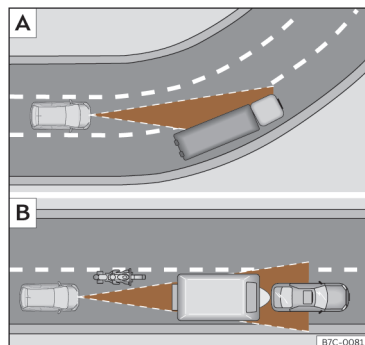

Fig. 112 **A** Vehicle on a bend. **B** Motorcyclist ahead, out of range of the radar sensor.
The ACC may not detect the vehicle in front on a curve, or may regulate the distance from vehicles in other lanes >>> Fig. 112 A).
- Vehicles that are not aligned while driving or that are outside the sensor's detection area, such as motorcycles >>> Fig. 112 B).